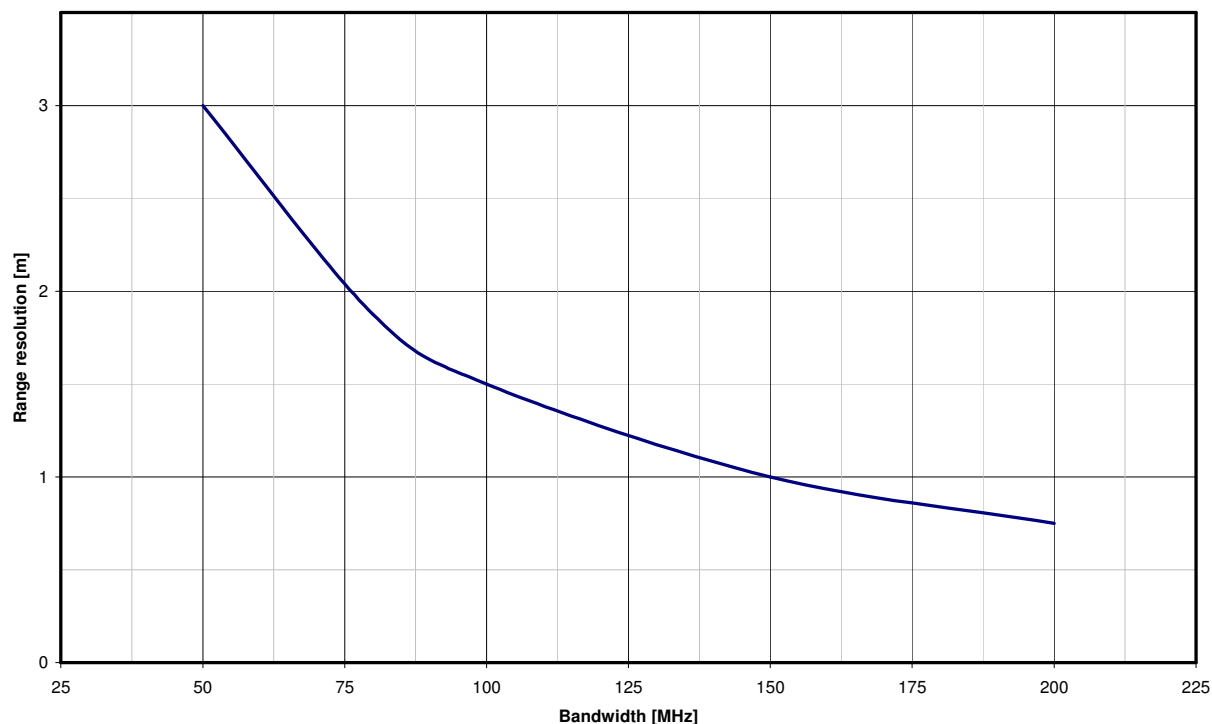
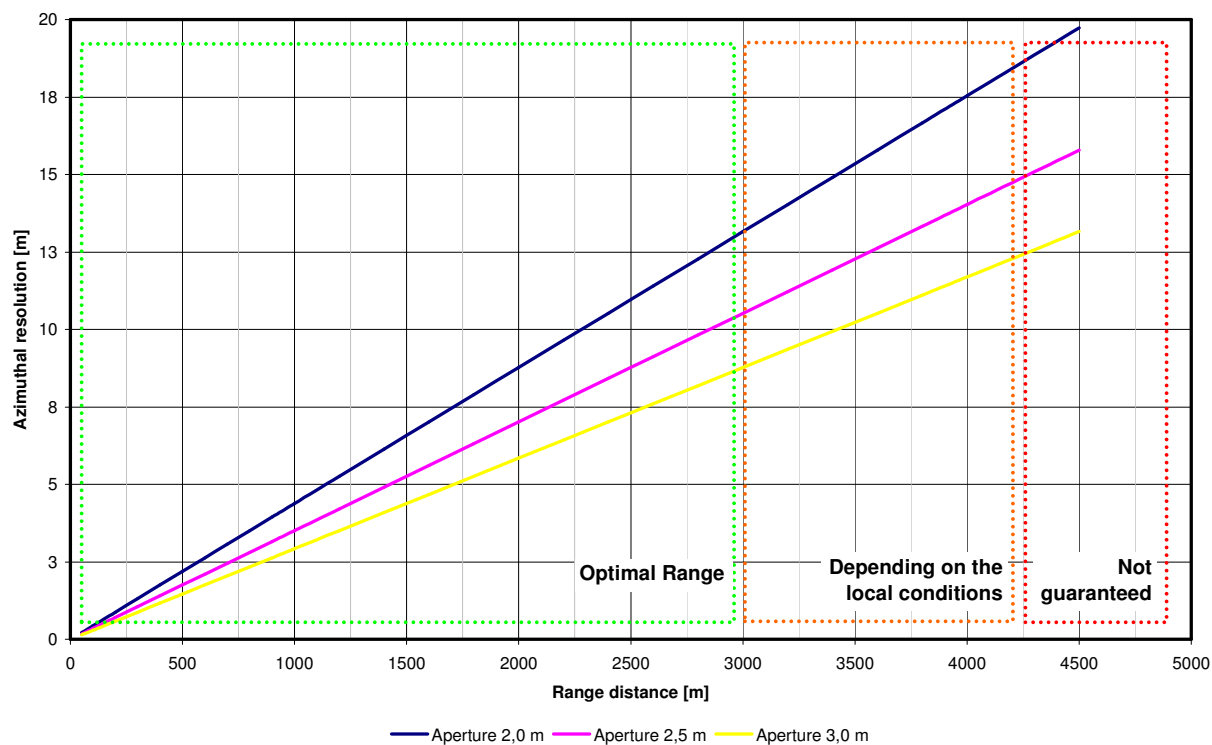
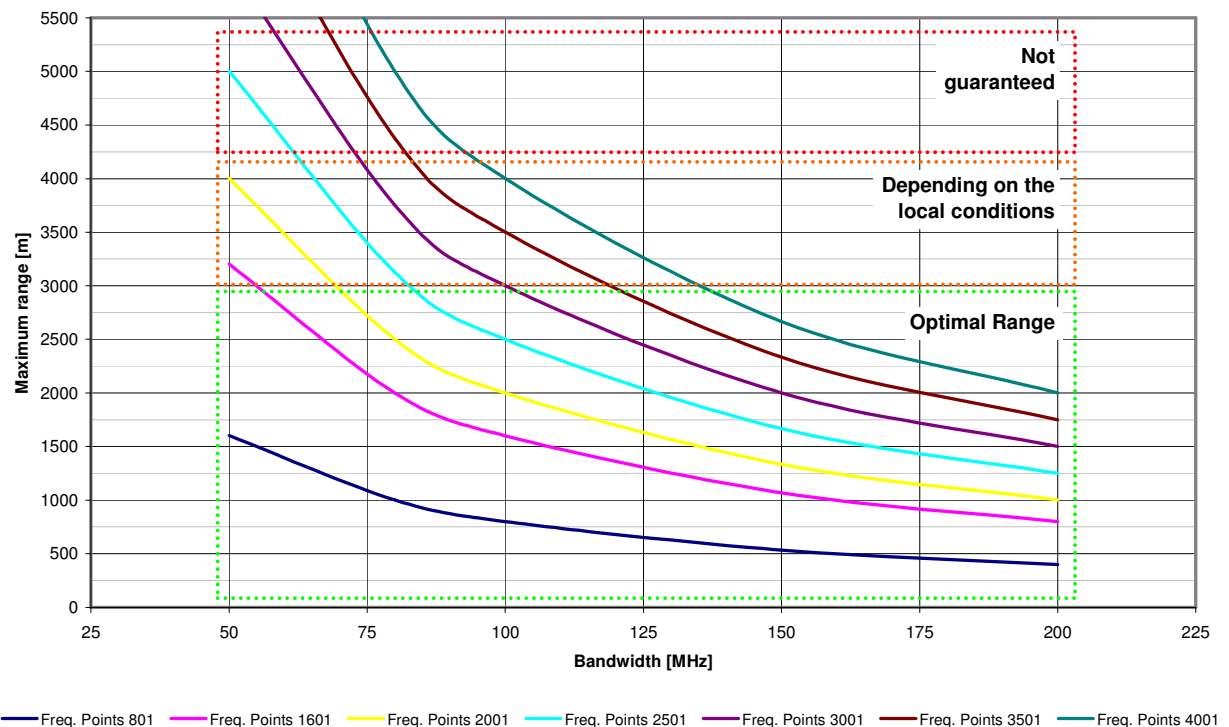

Figure 23: Range resolution graph.
Figure 24: Azimuth resolution graph.
Figure 25: Maximum range graph.
In the following graphs are presented the LISAMOBILE system's theoretical range and azimuth resolution graphs (Figure 23 and Figure 24) and the LISAMOBILE system maximum range graph (Figure 25).
Therefore, as shown on the graphs of Figure 24 and Figure 25, for normal applications it can be stated that the LISAMOBILE optimal range is up to 3 km, between 3 km and 4.2 km the quality of the results could be highly affected by the local conditions, and over 4.25 km the feasibility of the measurements can not be guaranteed without a detailed inspection on the particular situation.
1. Chose the desired range resolution and consequently select the needed bandwidth according to the graph of Figure 23;
2. Knowing the maximum distance of the target area to be measured, select the synthetic aperture length needed to achieve the desired azimuthal resolution, according to the graph of Figure 24. It is recommended to select the system parameters in order to have similar or equal range and azimuthal resolution dimentions, extremely stretched resolution cells might produce poor quality results;
3. Knowing the maximum distance of the target area to be measured and the bandwidth selected in the first step of this procedure, select the number of frequency points according to the graph of Figure 25. the maximum range indicated in the graph must be grater than the maximum distance of the target area;